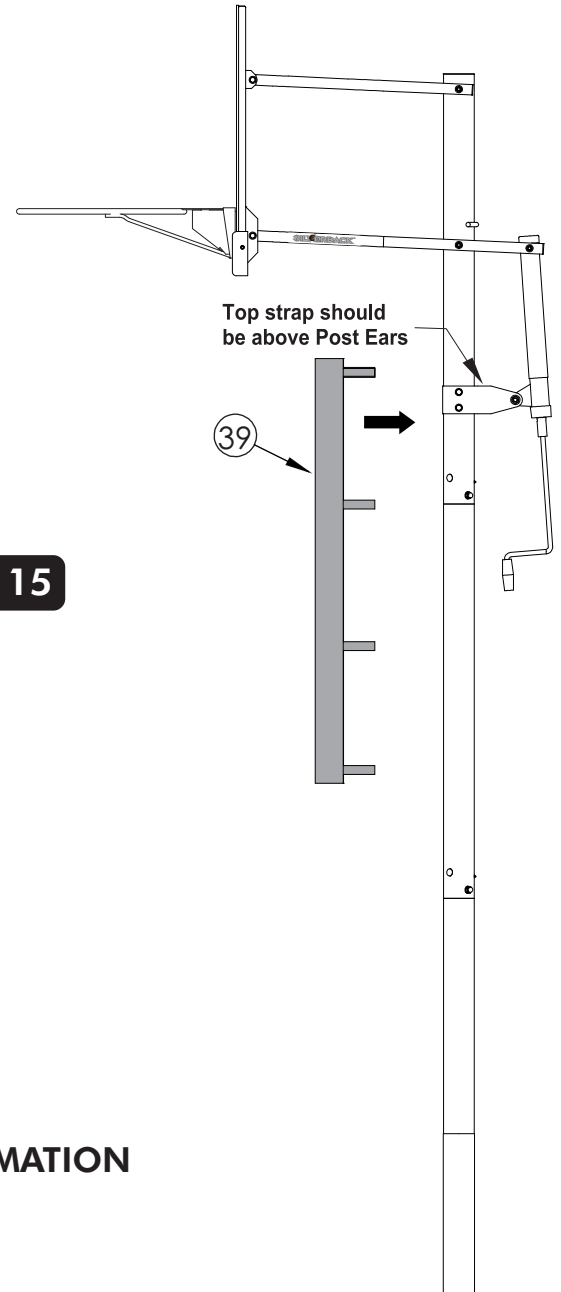

Figure 15
- 34.** Secure post pad (#39) to front of pole by wrapping straps around pole and sticking to velcro on opposite side of pad. Top post pad strap should be above post ears. See **Figure 15**.